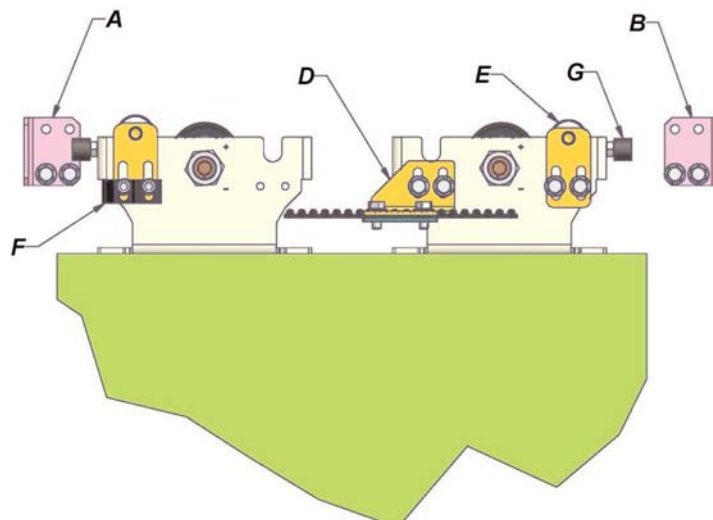

Fig. 25
- **Fig. 25** part. **D** with 1 wing automatism and right opening
An incorrect fixing of the belt clamp on the carriages causes alterations in the direction of the opening and closing wings. Verify carefully the agreement of the connections between the belt and the carriages as indicated in the **Fig.25, 26 and 27**.